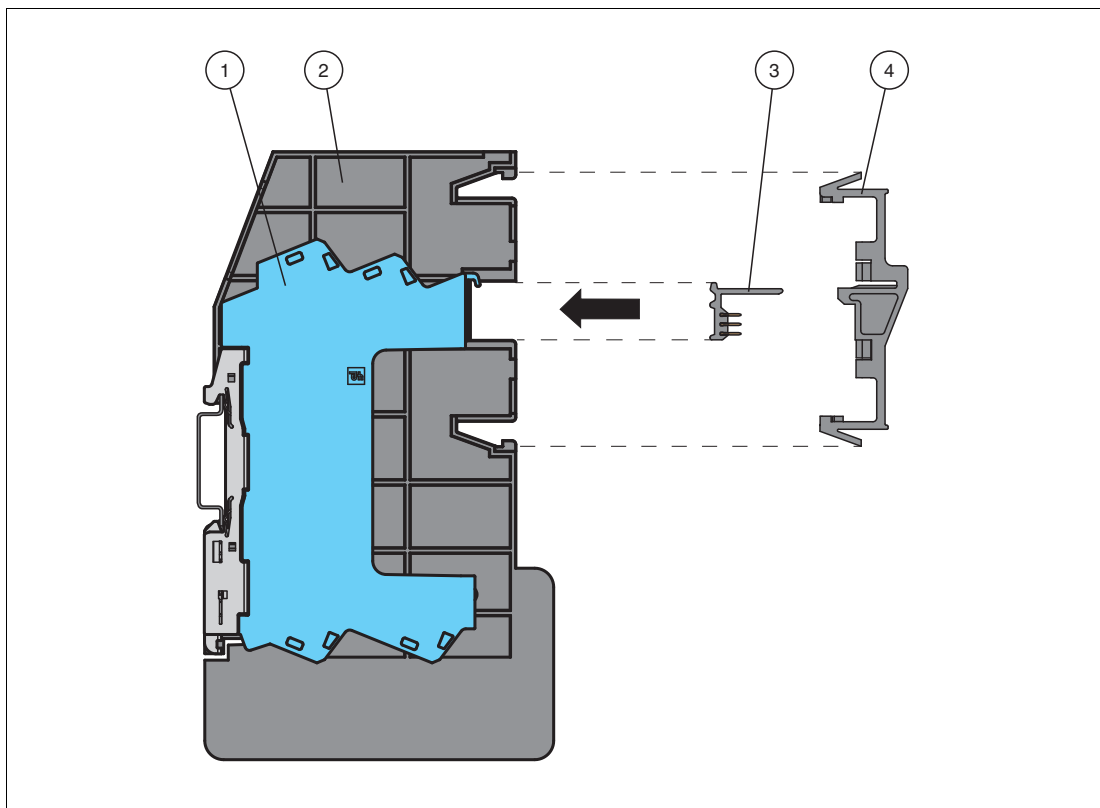

Figure 3.3 Mounting the Universal Power Rail
1. The Universal Power Rail (3) is supplied in a standard length of 0.8 m. If you require a different length, shorten the Universal Power Rail.
2. Place the Universal Power Rail (3) into the slot on the base module (1). See Figure 3.3.
3. Secure the Universal Power Rail (3) by mounting the fastener (4) of the separation wall (2).